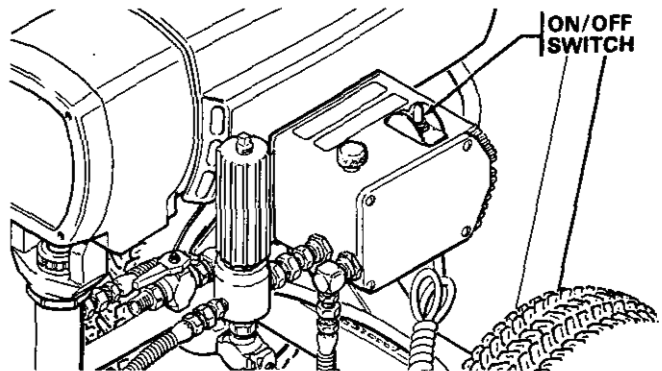

Fig 4
- Be sure the ON/OFF switch is OFF. Refer to Fig 4. Then plug the cord into a grounded electrical outlet at least 6 m (20 ft) away from the spray area.